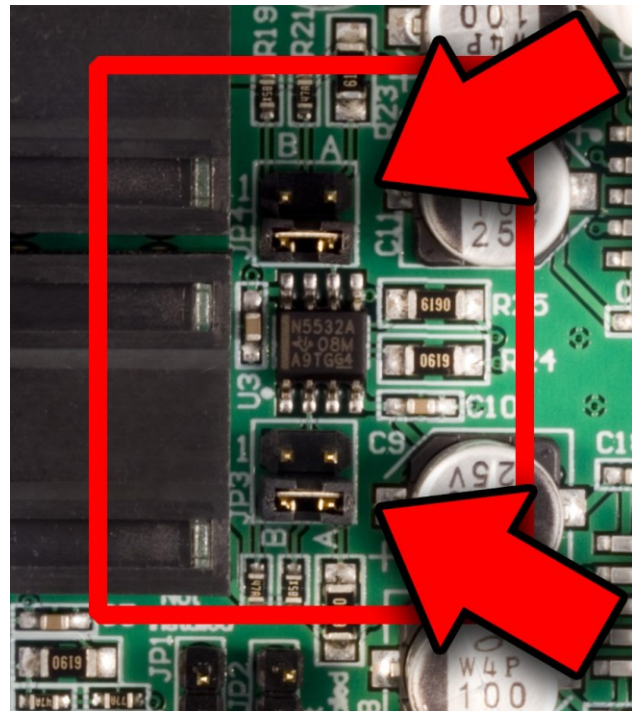

Figure 4 - HPA2™ Gain is -10 dB (Default)
- **Gain = -10 dB** - see **Figure 4** (Factory Default)